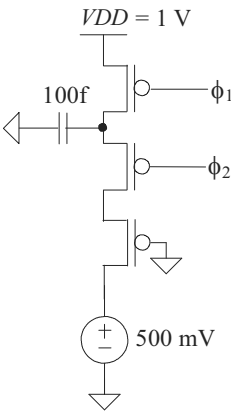

Figure 17.43 Determining the average current that flows in a switched-capacitor resistor. See Problem 17.11.
- 17.11** Using the short-channel CMOS devices determine the average current that flows in the circuit seen in Fig. 17.43. The clocks are nonoverlapping (never low at the same time) as used throughout the chapter and have a frequency of 100 MHz. Verify your answer using SPICE.